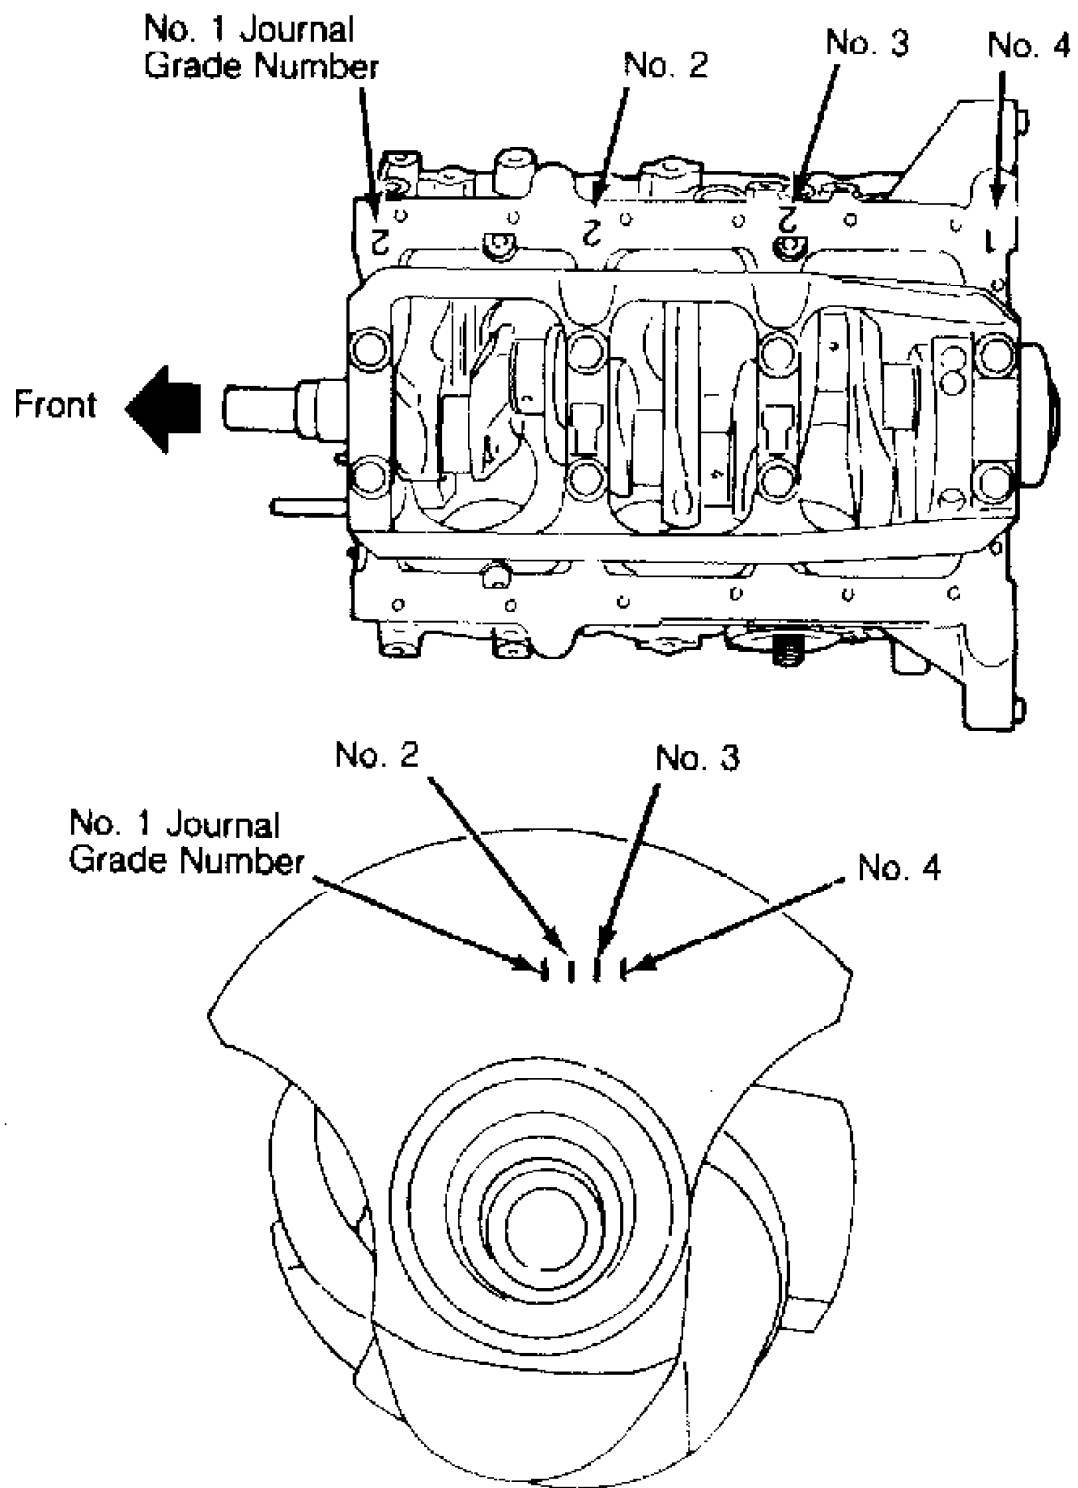

Fig. 19: Identifying Cylinder Block & Crankshaft Code Numbers
2) If replacing bearings, determine bearing grade number. See Fig. 19. Tighten rod bearing caps evenly in 2-3 steps in sequence to specification. See TORQUE SPECIFICATIONS TABLE at end of article.
3) If number cannot be obtained, select bearing by adding numbers on crankshaft and cylinder block to arrive at number bearing needed. For example, if cylinder block main bearing bore code number is "1" and crankshaft journal code number is "2", main bearing code number will be "3". See Fig. 19 and CRANKSHAFT MAIN BEARING SPECIFICATIONS TABLE.